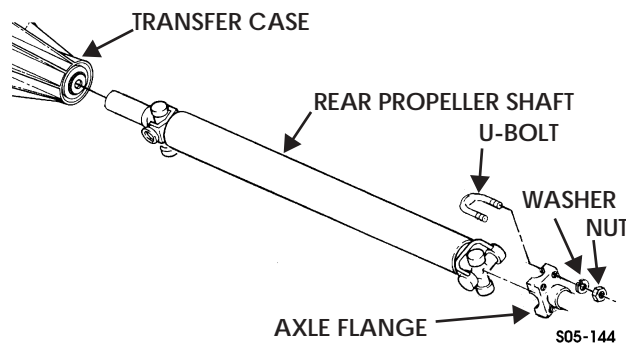

Figure 5-195: Rear Propeller Shaft
2. Remove four nuts, lockwashers, and two straps, and rear propeller shaft from differential pinion yoke (Figure 5-195).
1. Slide propeller shaft end yoke into transfer case extension (Figure 5-195).